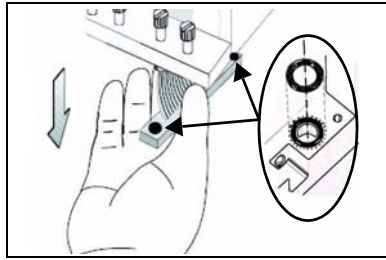

Figure 6-69: O-ring seals on the print head
15. Inspect the replacement head, and make sure that the O-ring seals are in place (see figure 6-69).